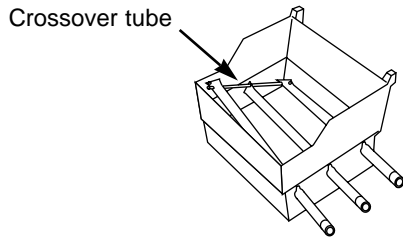

Figure 13
- h) Lift and twist the burner assembly slightly, to separate the crossover tube from the burners. Figure 13. Remove the burners from the cooking box.